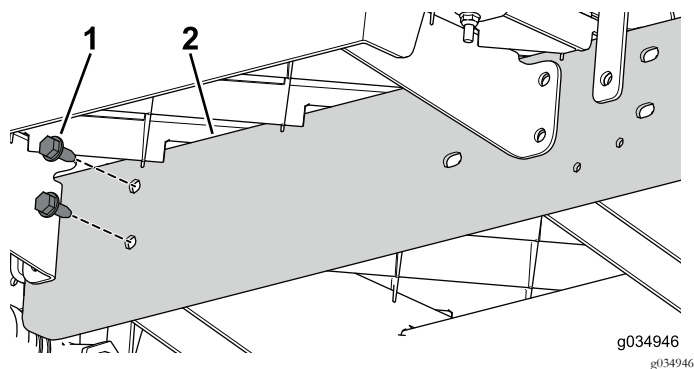

Figure 26
6. Use the 2 bolts (5/16 x 3/4 inch) to loosely install the extension rail to the center channel at the front section of the machine (Figure 26).